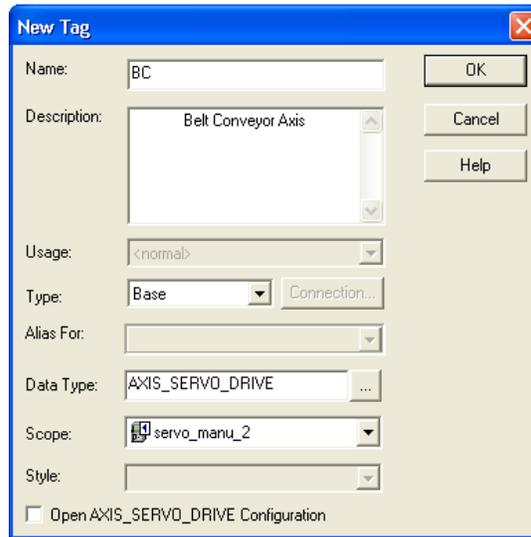

Figure 35. Axis description (BC).
- Give the name BC (Belt Conveyor) to this new axis and add a description (Figure 35). Keep the box at the bottom unchecked.